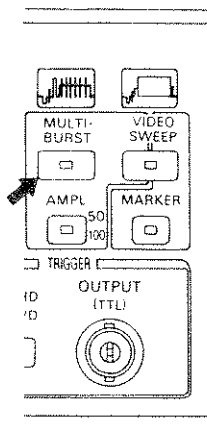

Figure 4.8
4.2.7 Setting Last Burst of Multiburst Pattern (See Figure 4.8 and 4.9)